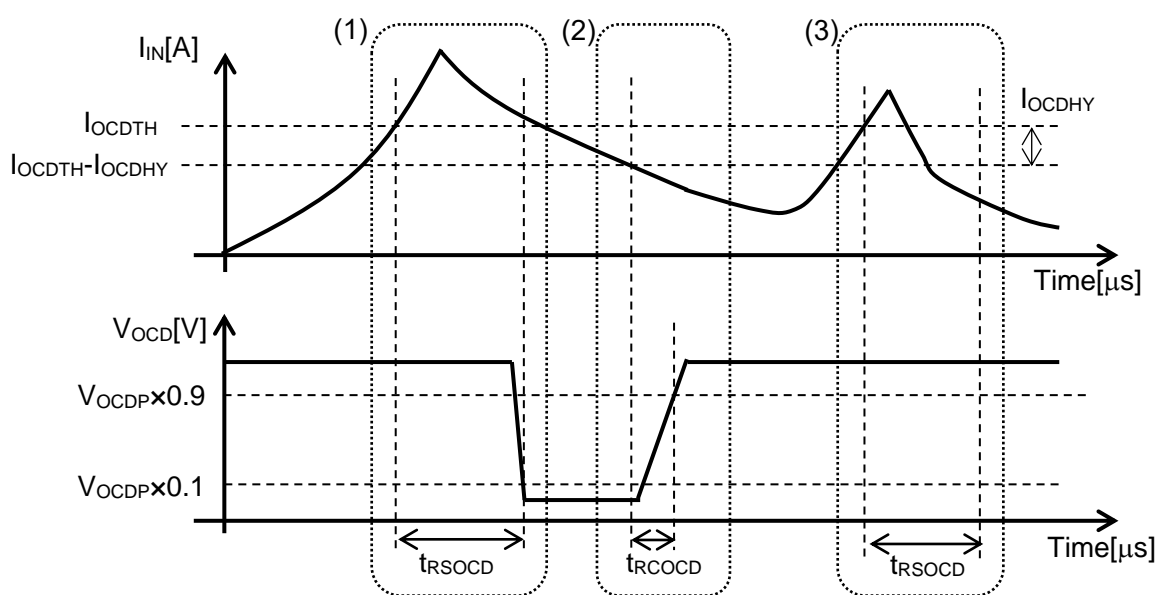

Figure 6. Overcurrent Detection Function of CZ-3A01
10.4. Overcurrent Detection Function is operated as below. (See figure 6.)